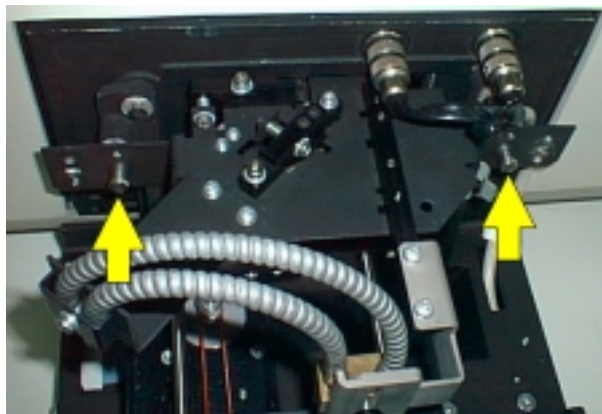

Figure 67 Attaching the optical assembly
8. Attach the optical assembly to the Plate Reader and tighten the two screws which secure it, as shown in Figure 67.